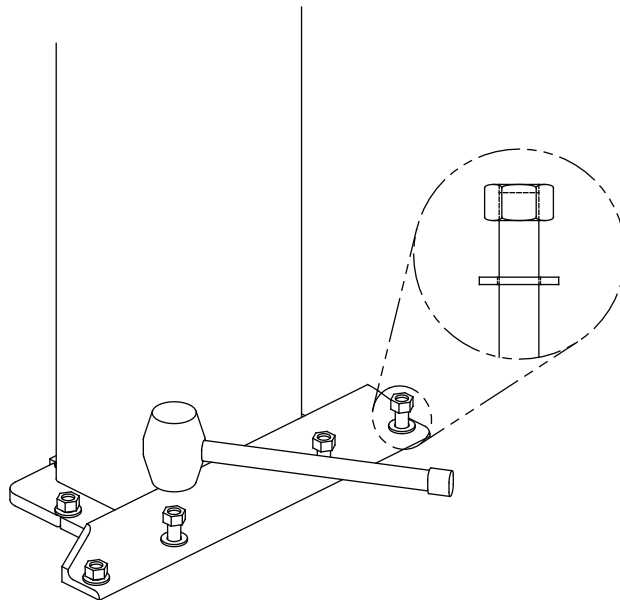

Figure 7
- F. Assemble the washers and nuts onto the anchor bolts. Thread the nuts onto the anchor bolts where the tops of the nuts are just above the top of the bolts, Figure 7. Using a hammer, *carefully* tap the anchor bolts into the concrete until the washer rests against the baseplate. Do not damage the nuts or threads.